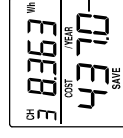

Figure 12
- In COST/ YEAR display mode: the cost save value per year is shown. (Figure 12)